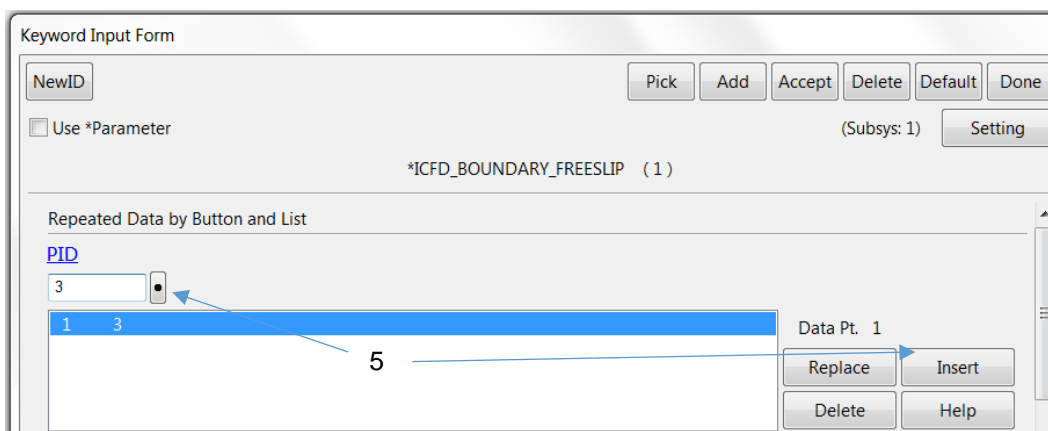

Figure 12 *ICFD_BOUNDARY_FREESLIP keyword
5. The remaining boundary condition is for the surroundings where we will use the free-slip condition, which means that the tangential velocity will be non-zero. Select the keyword ***BOUNDARY_FREESLIP** in the keyword manager and then select part 3 and press insert, finish with pressing Accept and Done, see Figure 12.